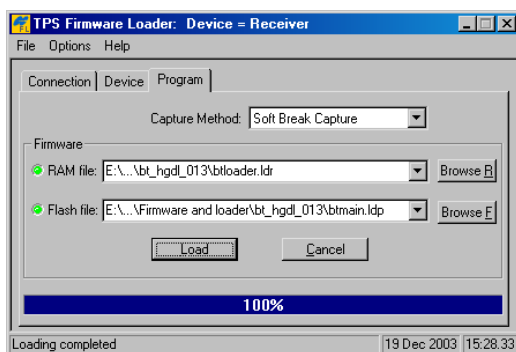

Figure 5-25. Bluetooth Firmware Load Complete
4. Click **Load** and wait until 100% of the files load into your receiver (Figure 5-25).